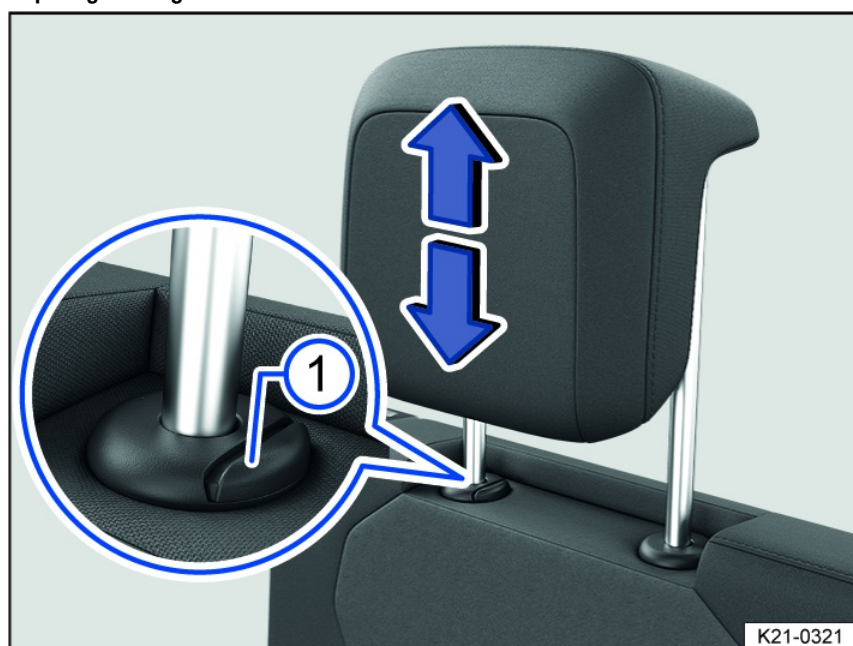

Fig. 81 General example: adjusting the head restraint on the third-row seats.
1. Push the head restraint upward in the direction of the arrow or slide it downward while pressing the fig. 81 button.